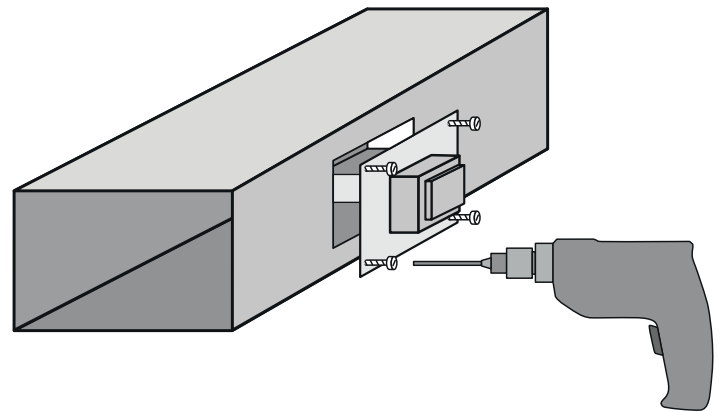

Figure 1
Step 1. The preferred location is in the supply air duct leaving the air handler. Be sure to pick a location before any branch duct take-offs. Verify that there is sufficient duct depth to allow clearance for the tube. C-Tube = 6"(L), D-Tube = 10"(L), E-Tube = 14"(L) (See Figure 1)
- Screw the model 100 or 200 onto the duct using sheet metal screws (See Figure 1).